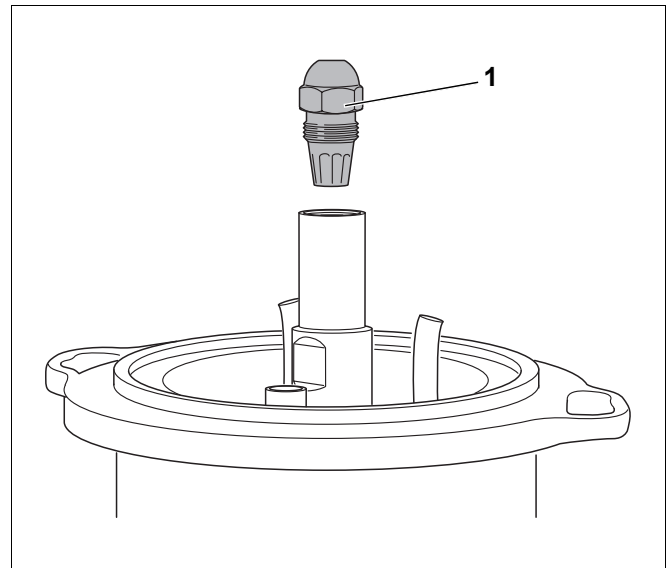

Fig 27 Removal of oil nozzle
- Loosen and remove the oil nozzle (Fig. 27, **Item. 1**) using 2 wrenches, 16 and 19 mm.
- Remove the oil nozzle(Fig. 27, page 28).